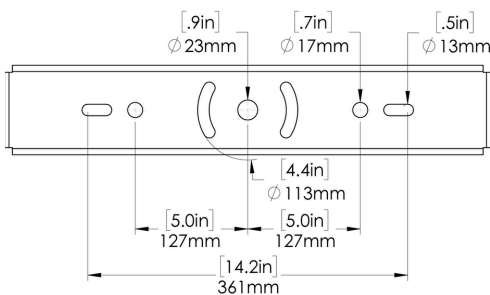

Fig. 1
1. Drill the required mounting holes into the mounting surface, refer to Fig. 1 for the yoke bracket mounting dimensions. Note that only two points of installation are needed to secure the fixture.